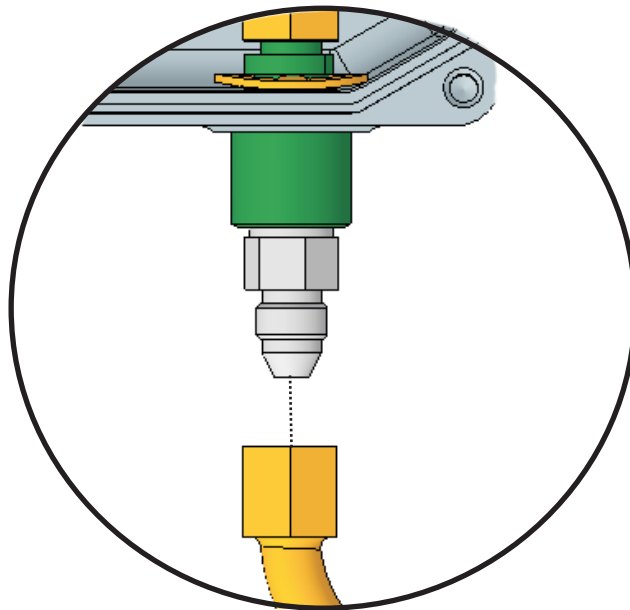

Figure 5-15. Fitting on Outside of XV Control System
7. After ensuring there is no leakage, loosen the swivel fitting located at the bottom right side of the XV Control System (see Figure 5-15). Allow the pressure to vent slowly. When the pressure is completely vented, disconnect the fitting and remove the cover.